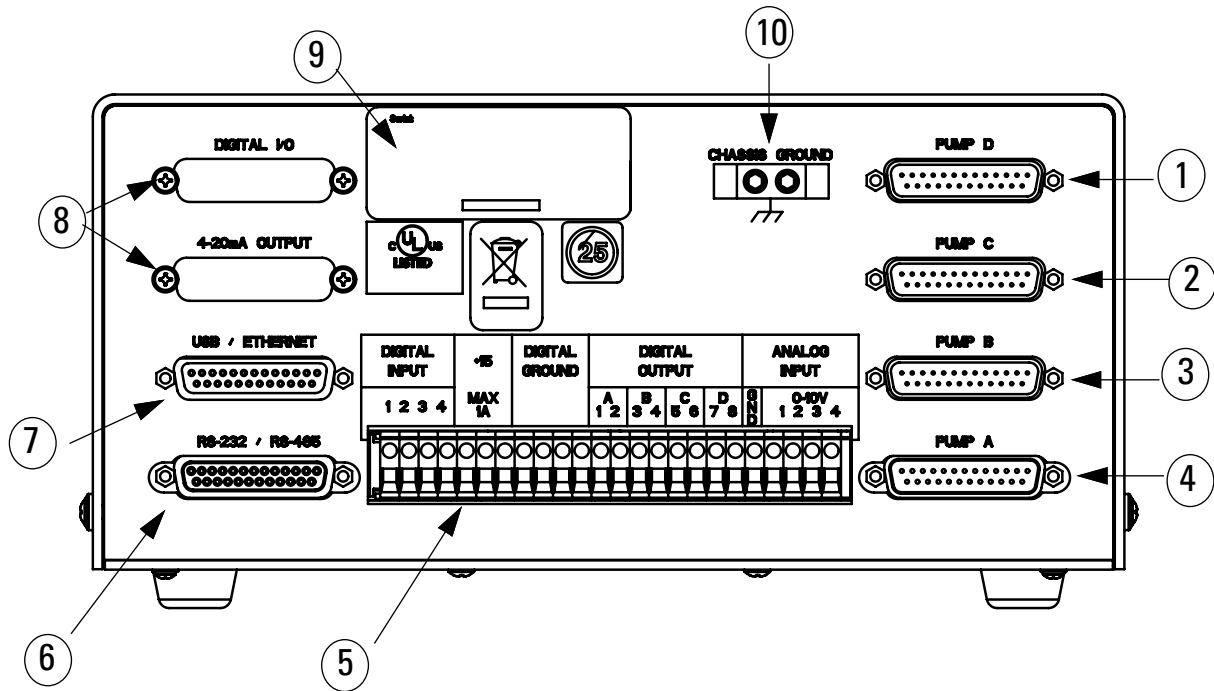

Figure 1-6 Pump controller rear panel connectors
The rear panel of the pump controller contains several input and output connectors, explained in Table 1-7, and shown in Figure 1-6.
2. Connect the control cable (which originates from the pump rear panel) to the PUMP A connector on the rear panel of the controller (Figure 1-6), and tighten the screws. This cable must be plugged into the PUMP A connector.